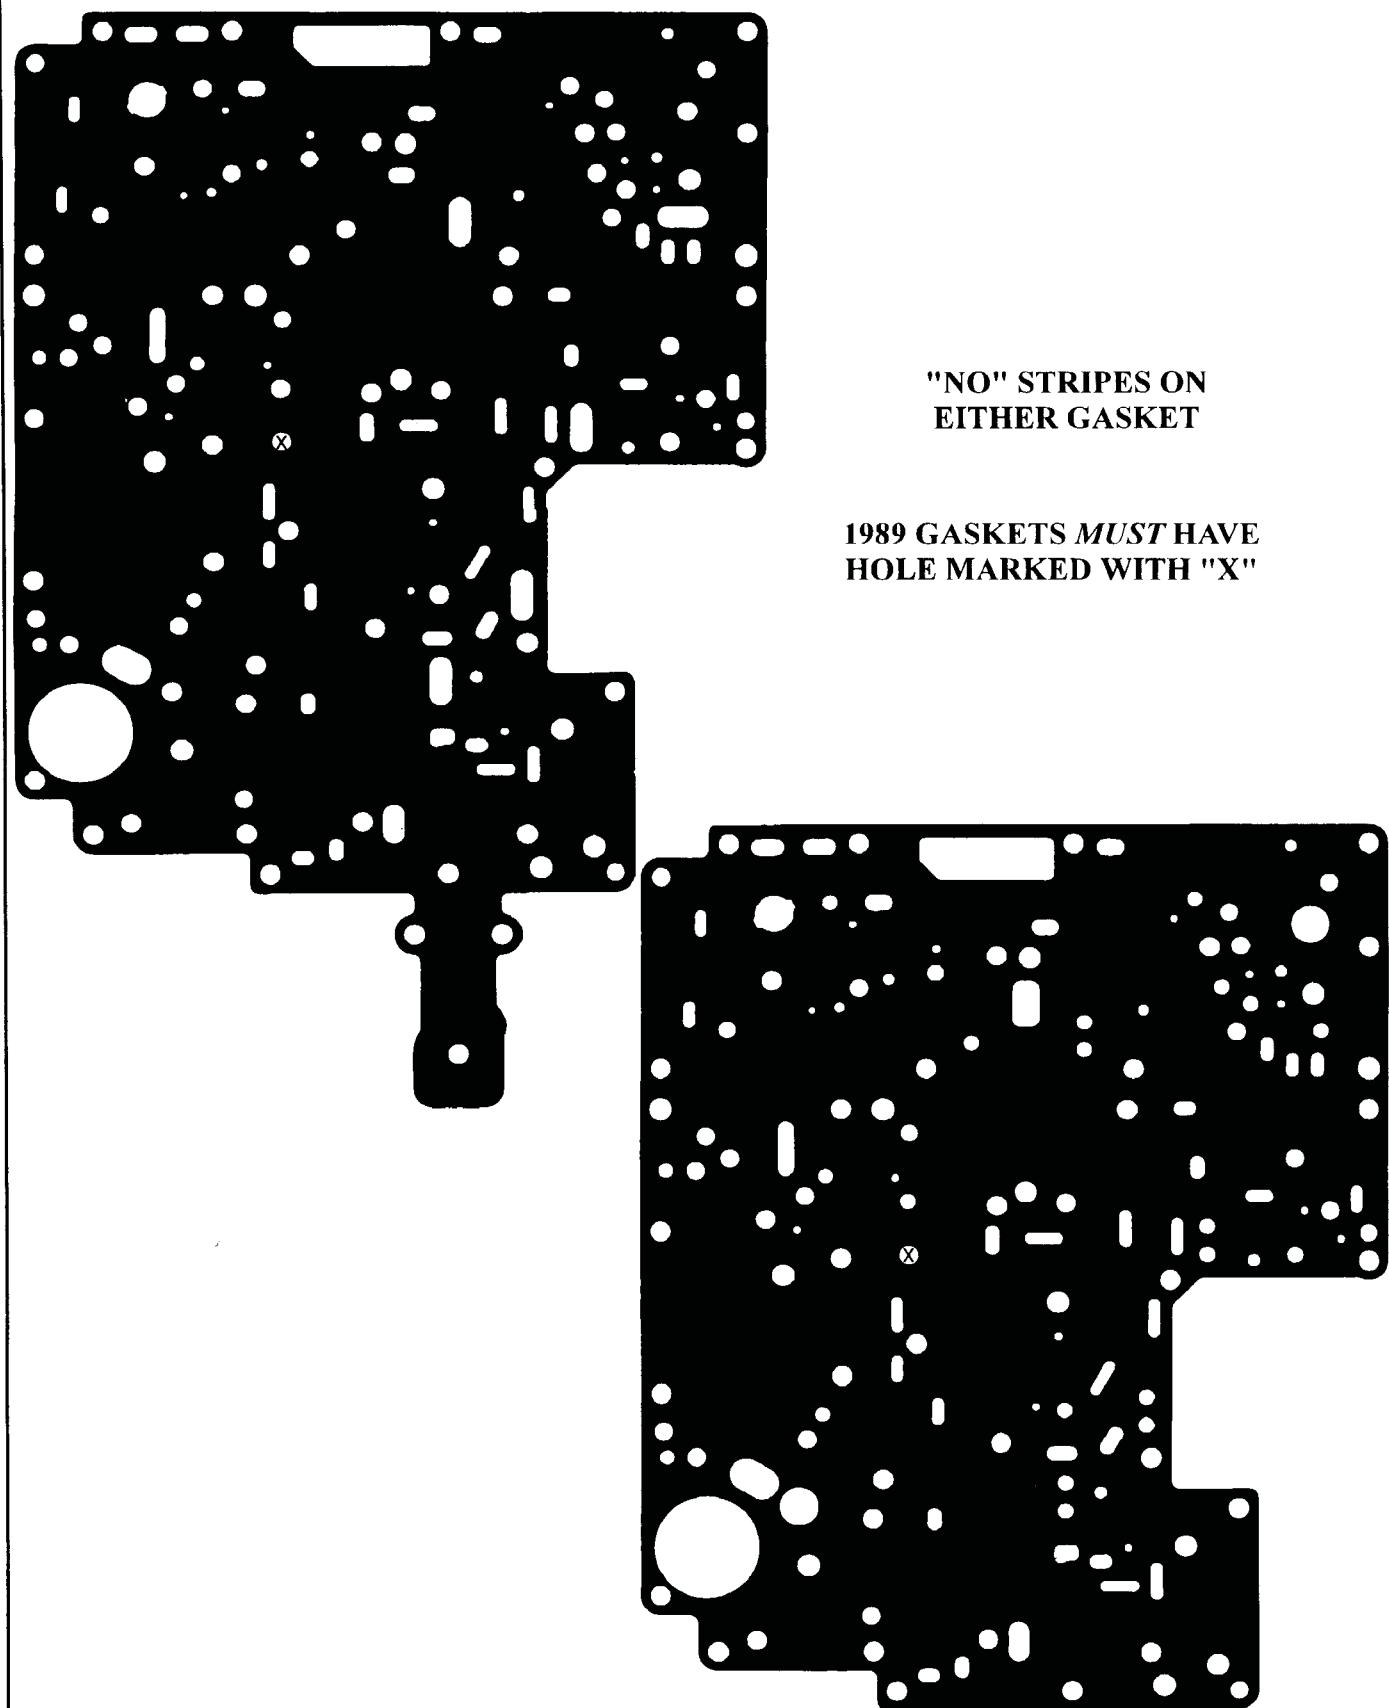

Figure 8
*1989 Models Only* - Require the Spacer Plate Gaskets with solenoid feed hole (Marked X) in the location shown in Figure 8, and the gaskets have **No I.D.** stripes on either gasket.